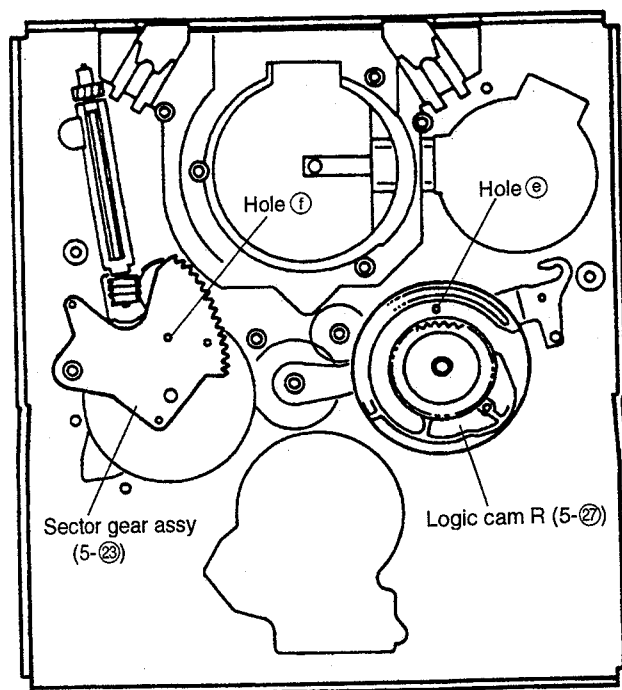

Fig. 4
Install Logic cam R (5-27) so that hole ⑥ in Logic cam R (5-27) in Fig. 4 is aligned with the holes (hole ④ in Guide carry lever assy (5-29) aligned in 2) of 2 with hole ⑥ in the mechanism chassis).
③ in Coupling gear A (5-25) and hole ① in the mechanism chassis) are aligned with each other.
Install Sector gear assy (5-23) so that hole ① in Sector gear assy (5-23) in Fig. 4 is aligned with the holes (hole ③ in Coupling gear A (5-25) aligned in 1) of 2 with hole ① in the mechanism chassis).